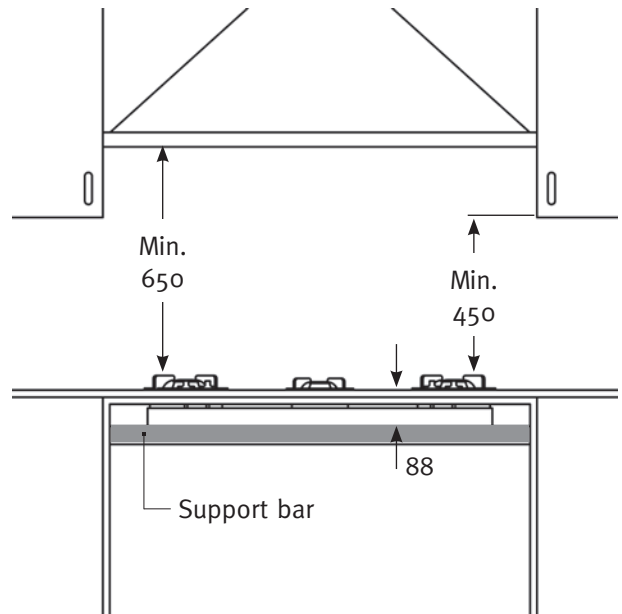

fig. 2
- If your countertop has a panel thickness less than 20mm and your cabinet size is 900 mm or bigger the module needs to be fully supported inside the cabinet (fig 2,3 and 4).